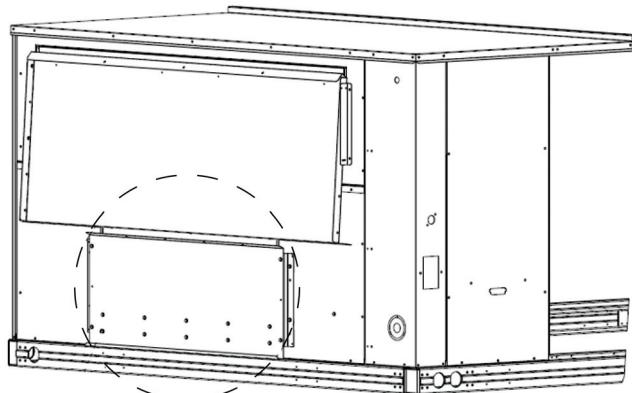

Fig. 17 — Shipping Location, Vertical Units
1. Remove the hood top panel from its shipping position on the unit end (see Fig. 17).